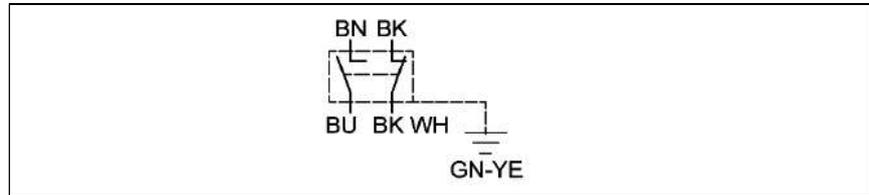

Fig. 15: Connection diagram for the limit switch
1. Remove the protection element (1) from the limit switch.
2. Remove the protection element (2) from the plug connector.
3. Insert the plug connector (3) into the limit switch.
4. Turn the screw (4) 90° clockwise.
5. Connect the cable ends (5) in accordance with diagram (see Fig. 15).